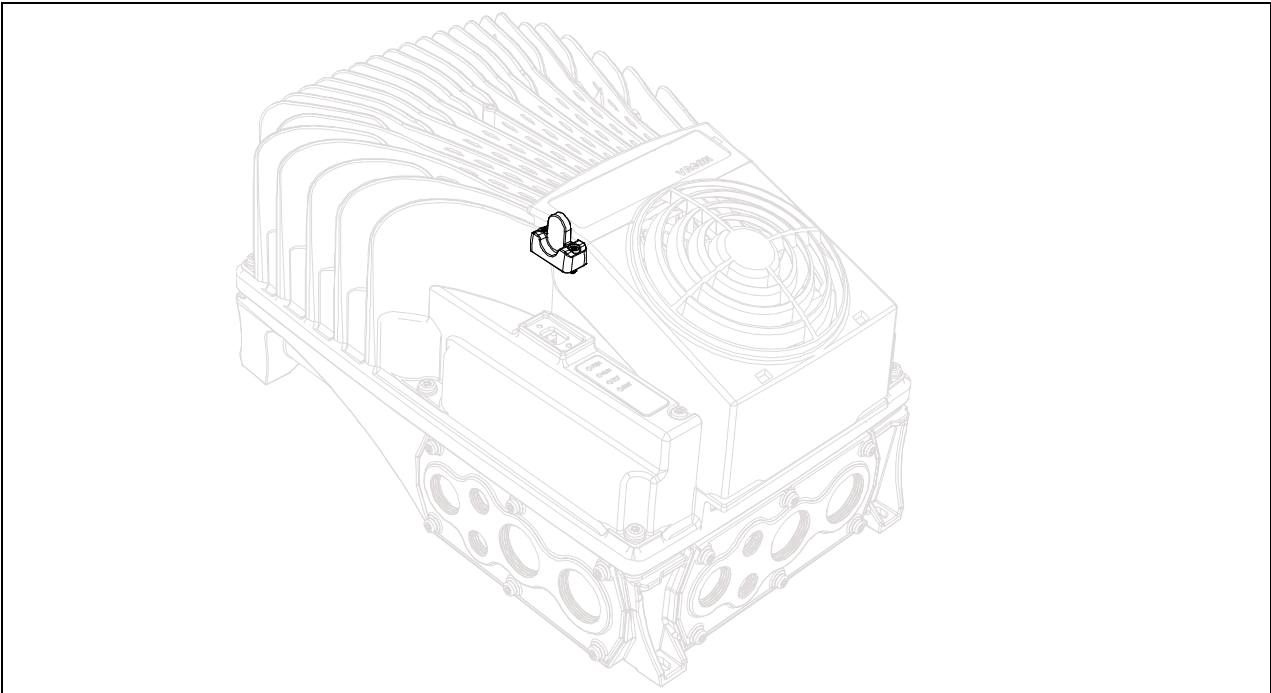

Figure 38. Disconnection of the HMI cap from the drive.
- Remove the HMI cap from the drive as shown in the Figure 38.